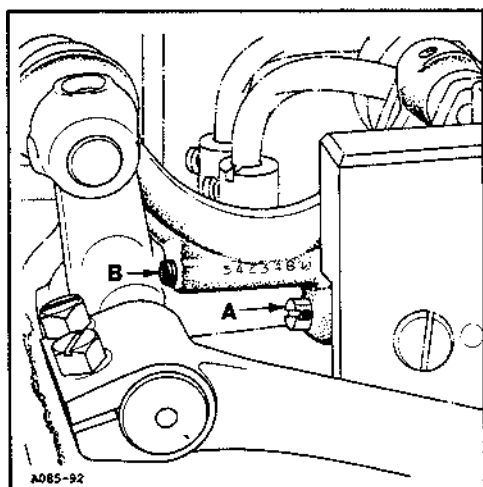

Fig. 10
To set the feed dog parallel to the throat plate loosen screw (A, Fig. 10) and turn screw (B) clockwise to tilt the front of the feed dog up or counterclockwise to tilt the front of the feed dog down. Retighten screw (A)